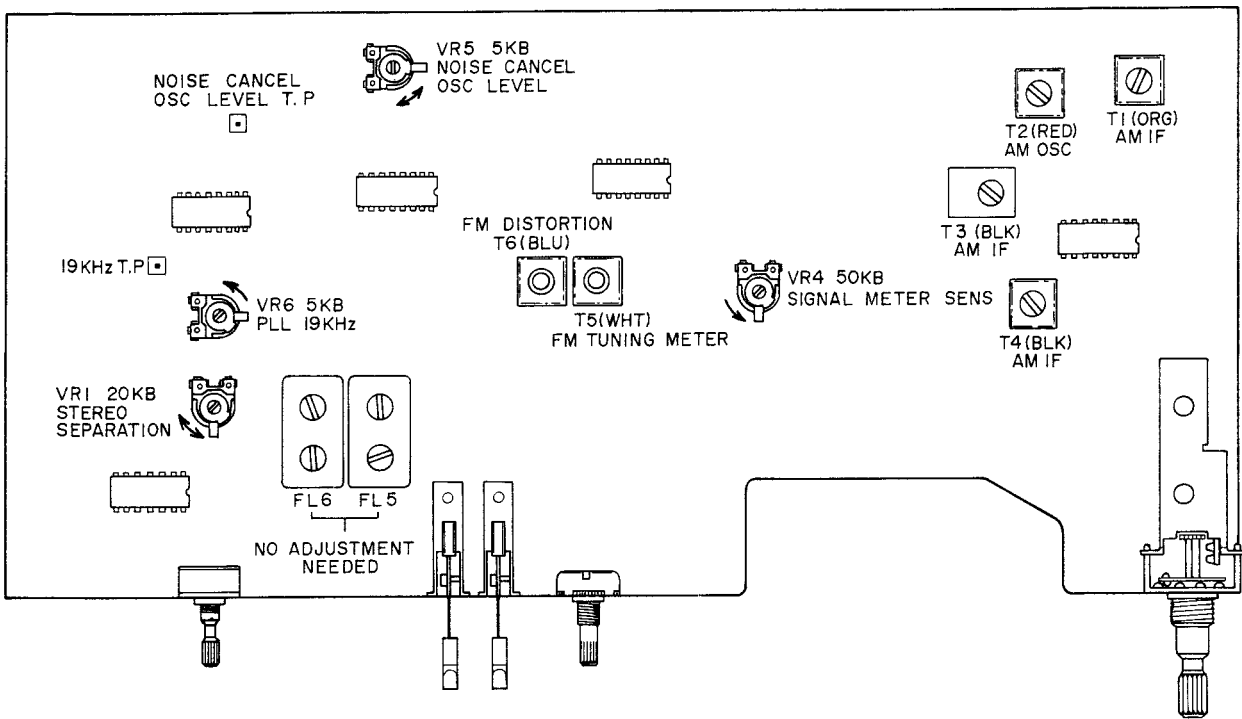

Fig. 23 Tuner P.C Board T3-6501A
## 1. FM TUNER SECTION ADJUSTMENT (Refer to Figs. 23, 24)
2. AM TUNER SECTION ADJUSTMENT (Refer to Figs. 23, 24 and 25)